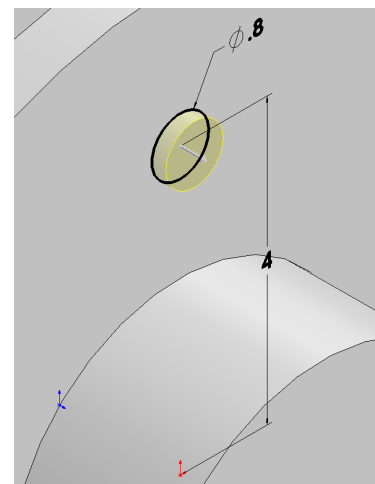

Fig. 30
Step 10. Zoom in on the **bolt circle**, Fig. 30.